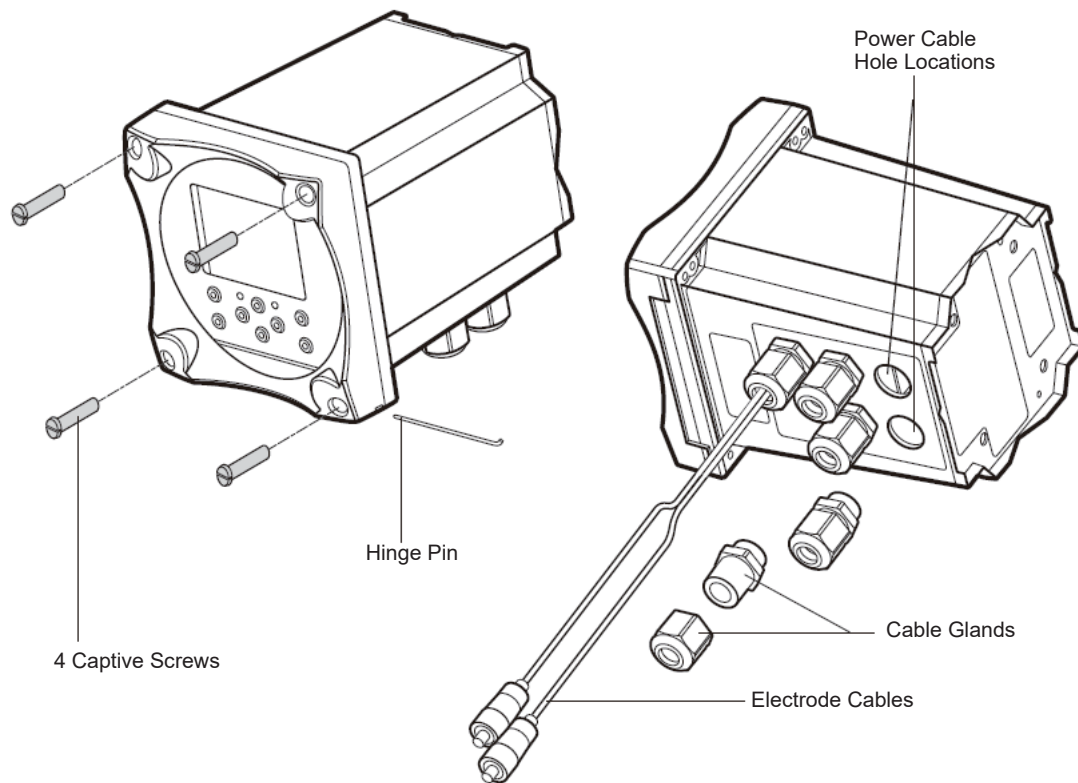

Figure 2.4 Electronics Enclosure with Cable Glands
2. Remove one or two of the two unused cable glands as required for wiring power cable or auxiliary connections. Power cable optional hole locations are shown in Figure 2.4.